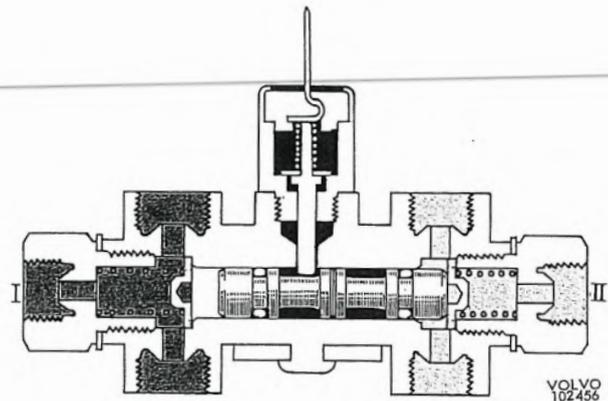

Fig. 5-40. Warning position
It is only when the pressure in the secondary circuit first exceeds that in the primary circuit by about 10 kp/cm² (142 psi) that the pistons are pushed so far to the right that the guide pin (4) can be pressed downwards. When this happens, the switch washer (2) reaches the housing (3) and current is cut in (Fig. 5-40). The guide pin is prevented from returning to its normal position until the fault has been rectified and the warning switch removed.